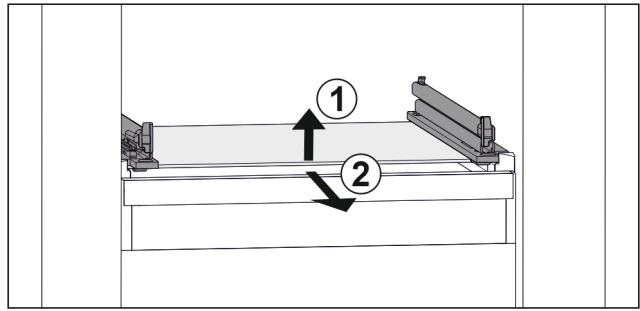

Fig. 110 Example illustration of glass shelf
- ▶ Lift glass shelf at the front. Fig. 110 (1)
- ▶ Take out glass shelf to the front. Fig. 110 (2)